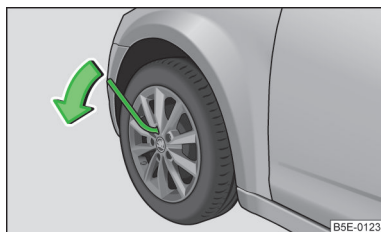

Fig. 190
- Grasp the end of the wrench and turn the bolt about **one** turn in the direction of the arrow » Fig. 190.
- Grasp the end of the wrench and turn the bolt against the direction of the arrow » Fig. 190 until it is tight.